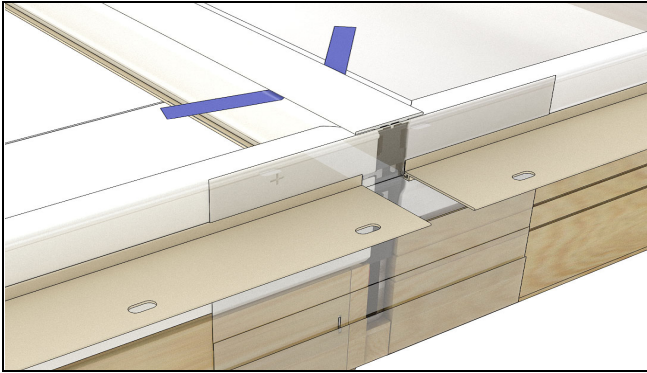

Figure 41
22. Dog ear both pieces of backing on the tape on the exterior cover on one end. Seat exterior mull cover into the mull weather strip. See Figure 41.